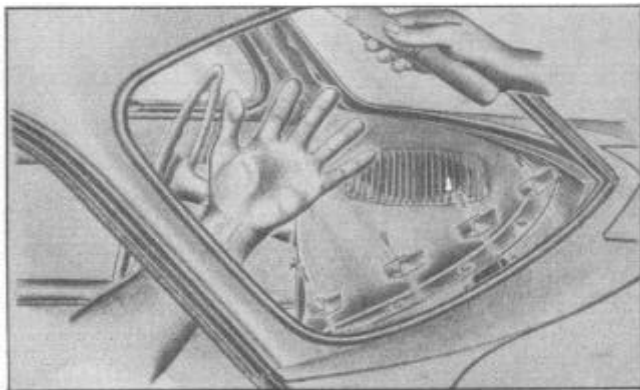

FIGURE 22
4. Using a dull putty knife, Figure 22, pry between the rubber weatherstrip and the chrome reveal moulding to loosen and remove the windshield glass and weatherstrip.